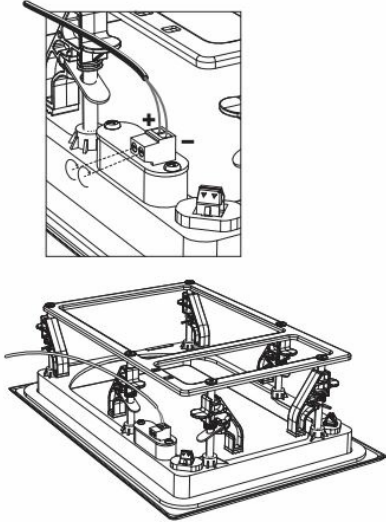

Fig. 7. Connecting Speaker Wires to the Frame
2. Locate the screw-terminal connector on the back of the frame (Fig. 7). The polarity of the connections is marked as shown in the illustration.